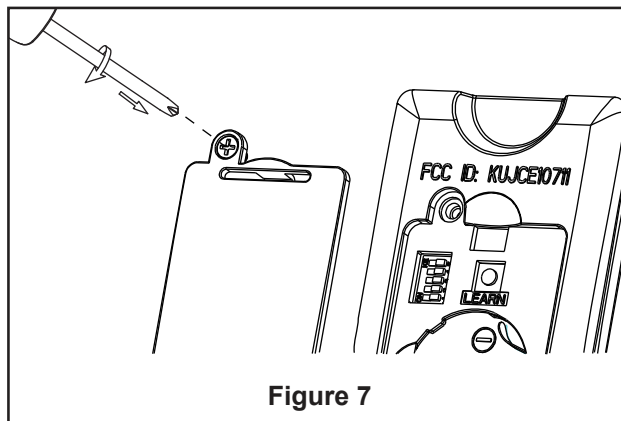

Figure 7
- ☐ **7.** Secure the glass to light kit by twisting in a clockwise direction. Twist the glass gradually **until it snaps onto the light kit**. Do not over-tighten. (Figure 7)
9. Replace battery cover on the remote control and secure with the previously removed screw. (Figure 7)